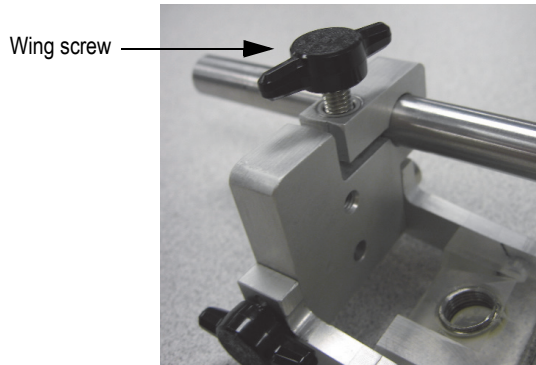

Figure 1-3 Loosening the bar socket
1. On top of the holder, unscrew the wing screw enough to loosen the bar socket (see Figure 1-3 on page 13).